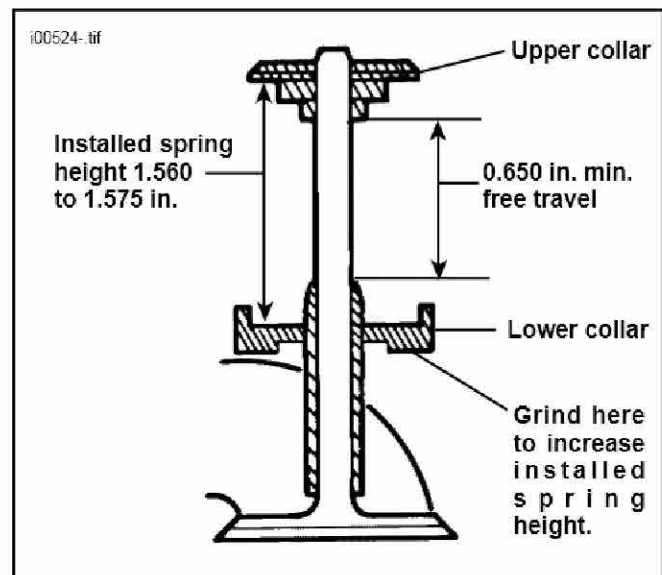

Figure 1. Valve Free Travel Check and Installed Valve Spring Height
4. See Figure 1. Assemble each valve in the cylinder head with the upper titanium valve spring collars and keepers from this kit in place without valve springs. Check valve movement for free travel. Free travel is the distance the valve can move off the valve seat until the underside of the upper valve spring collar strikes the upper end of the valve guide. Measure the free travel of the four valves and record the measurements.
- 11. If the installed spring height or the distance between collars is less than 1.560 in., remove lower collar and grind the surface shown in Figure 1 to obtain the 1.560 to 1.575 in. dimension.